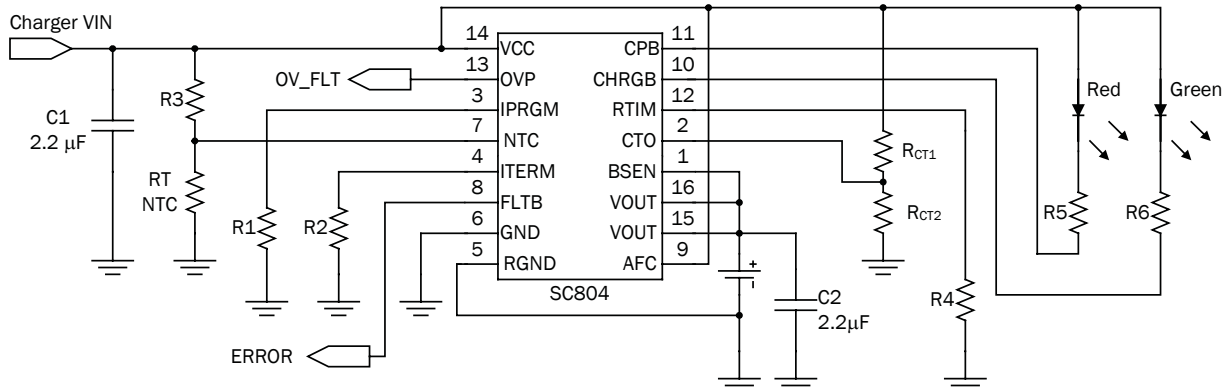

Figure 2 - Application Circuit with AFC Disabled, and with NTC and CTO Resistor Networks
This feature is especially useful if a single PCB design is needed to satisfy similar applications with different requirements. The temperature range for normal charging can be adjusted by adjusting resistor values on a divider network without changing the NTC thermistor, which is often enclosed in the battery pack. An example of a typical application is shown in Figure 2.
The following example assumes the NTC network configuration of Figure 2, with a fixed resistor R3 connected between NTC and VCC, and a battery NTC thermistor RT connected between NTC and ground. The battery temperature range over which charging is permitted is specified to be 0°C through 40°C. The datasheet for the selected NTC thermistor indicates that  $R_T = 5.839k\Omega$  at 40°C, at  $R_T = 26.49k\Omega$  at 0°C, with a dissipation constant  $DC = 3mW$ . Designate  $R_{HOT} = 5.839k\Omega$  and  $R_{COLD} = 26.49k\Omega$ .
**Step 4: Configure CTO.** If  $NTC_{COLD}$  is sufficiently close to the default cold threshold ( $V_{T_{NTCC}} \times V_{VCC}$ ), then simply connect CTO to ground, disabling the CTO function, to complete the design. But in this example it is not, so the voltage on CTO must be set to  $0.6591 \times V_{VCC}$ . The simple resistive voltage divider network of Figure 2 can be used to obtain the desired CTO voltage.